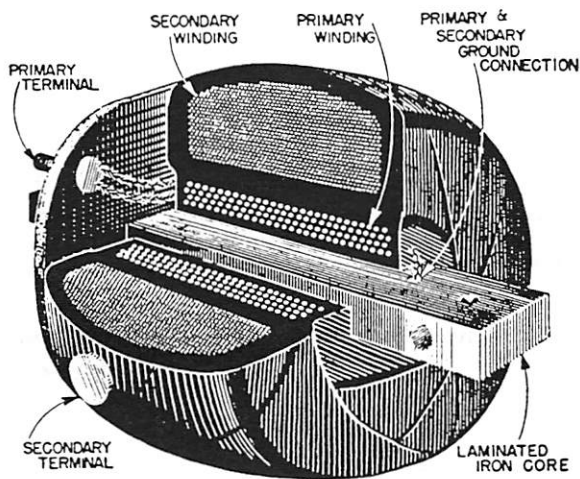

FIGURE 6
1. **Magneto Coil.** A magneto coil is made up of 2 individual sets of wire windings, namely the primary and secondary coils. The inner winding is the primary coil and contains approximately 175 turns of heavy wire. (See Figure 6.) One end of this primary coil is connected to the frame of the magneto as a ground, and the other end is connected to the live insulated breaker point. The secondary coil is wound around the outside of the primary and usually has about 10,000 turns of very fine wire. (See Figure 6.) The inside end of the secondary is